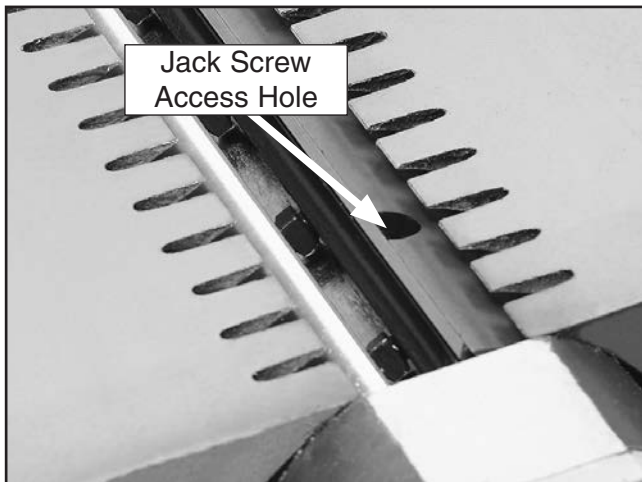

Figure 45. Jack screw access hole.
- a. Using a 3mm hex wrench, find the jack screws through the access holes in the cutterhead (**Figure 45**) and rotate the jack screws to raise or lower the knife. When the knife is set correctly, it will barely touch the bottom of the straight-edge or the knife setting jig middle pad.